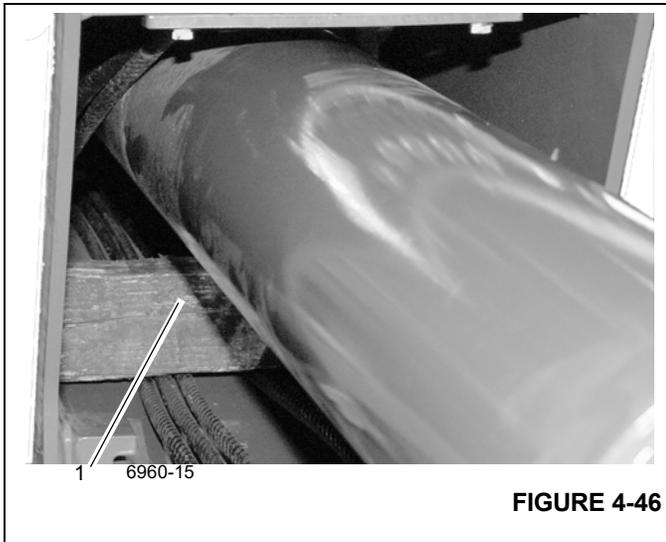

FIGURE 4-46
- 18. Place blocking (1), (Figure 4-46) under the rear of the Telescope Cylinder to aid in assembly (Figure 4-46).